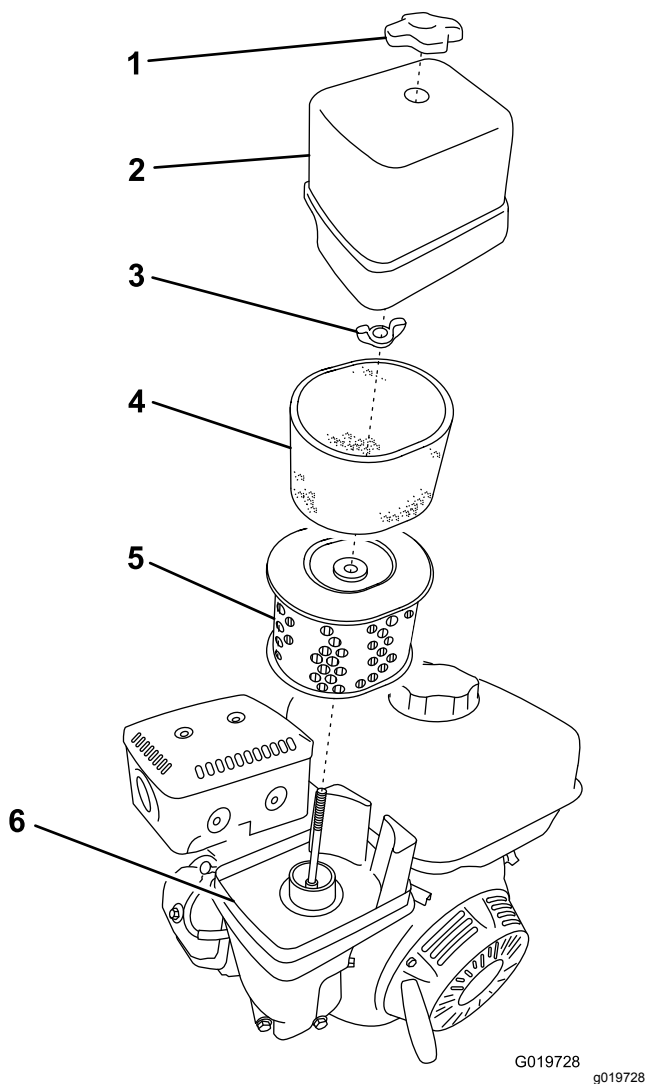

Figure 42
3. Remove the nut that secures the cover (Figure 42).
5. Remove the foam and paper elements from the base (Figure 42).
6. Remove the foam element from the paper element (Figure 42).